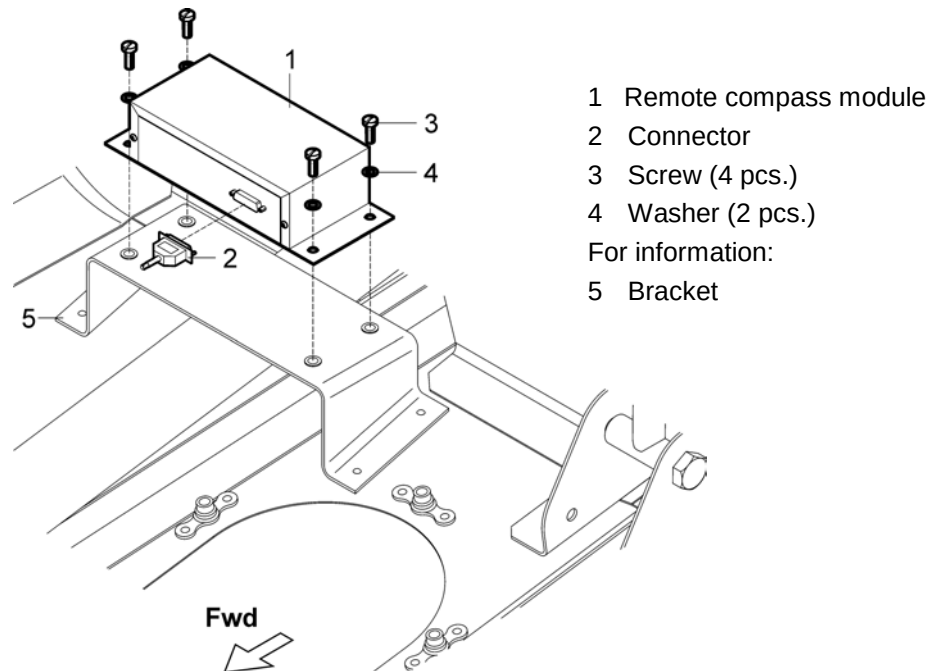

Fig. 12.3.9-1: NAV antenna removal / installation
- Disconnect the connector (2, Fig. 12.3.9-1) from the compass module.
- Unscrew the screws (3) with the washers (4) and remove the compass module (1).
- (a) Place the compass module (1, Fig. 12.3.9-1) on the bracket (5) and fasten it by means of the screws (3) with the washers (4).
- (b) Connect the connector (2) to the compass module.